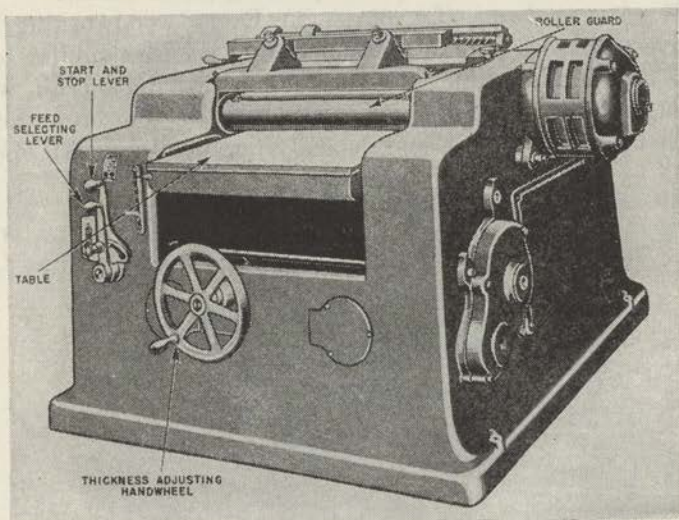

FIGURE 64.—Planer.
e. Planer (fig. 64).—(1) The planer removes saw marks from the sides of rough lumber and reduces boards to required thickness. *It will not straighten the sides of a board, but will make them parallel.* To straighten a board, one face of it must first be trued in the jointer. The planer is used for the faces or sides of boards, never for edges unless they are wide—say, 3 inches. To operate it, feed the wood between the roller and the table, which is adjusted for the thickness of the board by a handwheel. The cutter is located in back of the roller. Do not expect the planer to remove too much stock in one bite; $\frac{1}{8}$ inch in hardwood is about the maximum, and less is safer. Be sure that boards to be planed contain no nails.
(2) Planers and jointers usually have small motor grinding attachments that enable one to sharpen the blades when they become dull or nicked without removing them from the machine.